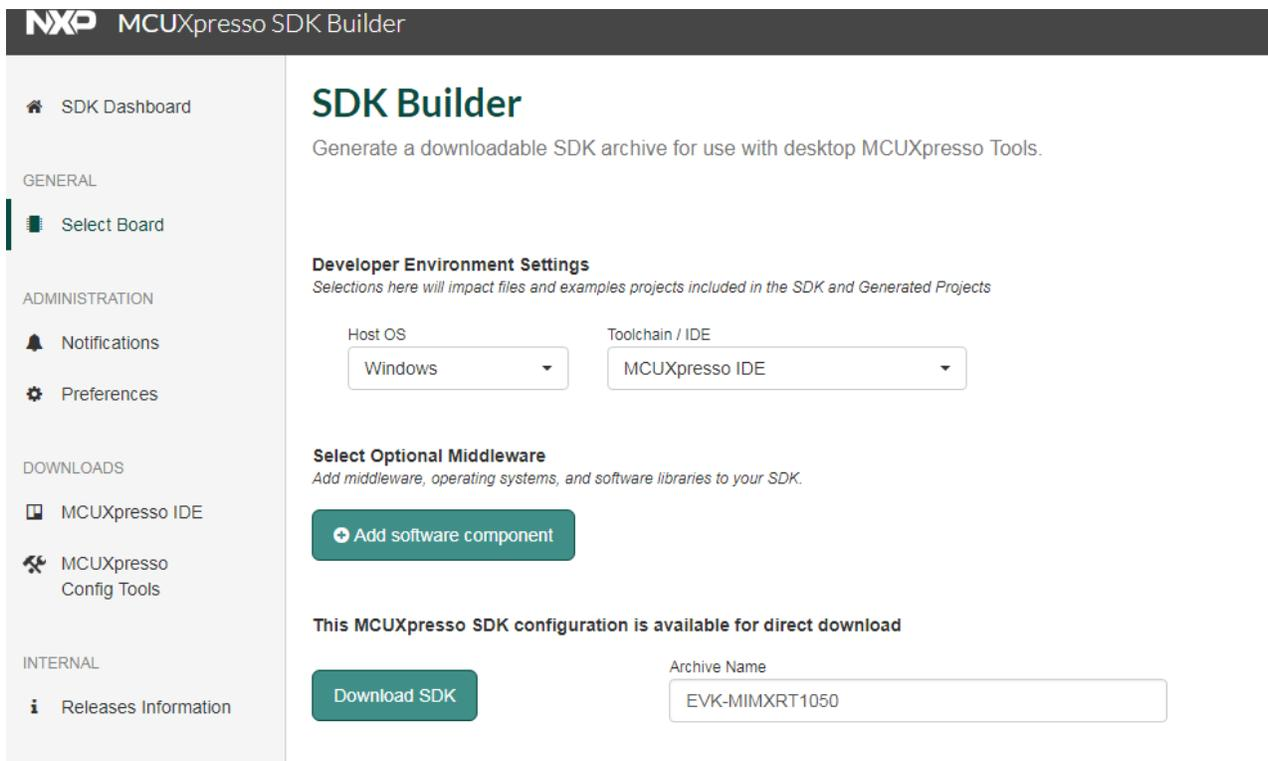

Figure 16. MCUXpresso SDK download
2. Select “EVK-MIMXRT10xx”. On the right-hand side, click “Build MCUXpresso SDK”. You are going to see something like this (Figure 16):